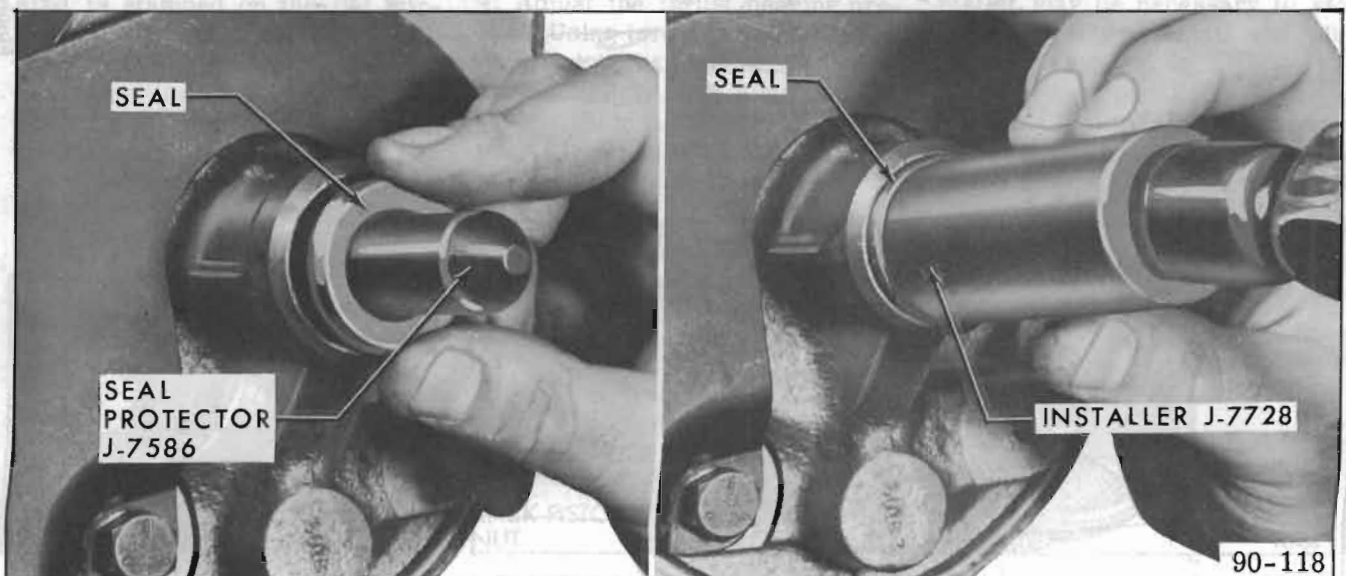

Figure 90-64—Installing Oil Pump Shaft Seal
1. Place seal protector J-7586 over shaft. Lubricate new seal with Buick power steering oil and drive in pump housing spring side first with installer J-7728. See Figure 90-64. Just bottom seal in housing. Excessive force must not be used when driving seal in place.